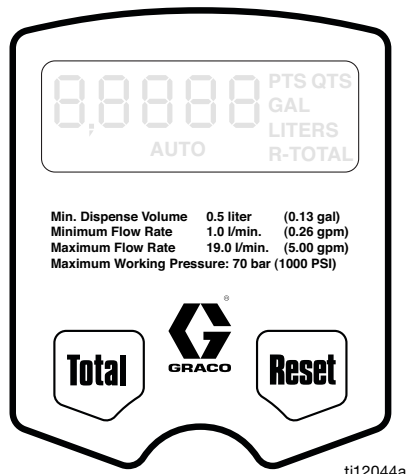

FIG. 10
Setup Menu (FIG. 10)
1. If the display is blank (asleep), wake it up by pressing any button on the keypad (FIG. 10).
2. Press and hold the Total and Reset buttons simultaneously for approximately six (6) seconds to enter the Setup Menu (FIG. 10).